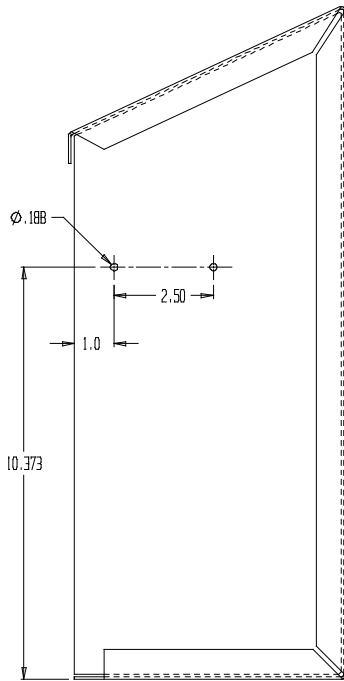

Fig. 2
Before doing any work remove power by unplugging machine. Remove the resistor that is cable tied at the top of the control panel, between the switch rows. Disconnect the wires from the Infeed Selector Switch (ISS), the top and bottom of the Infeed Jog Switch (IJS), and from the + and - sides of the Bridge Diode (BD) with a pliers. Drill two 3/16" (.188) diameter holes on the right side of the electrical box. (See Figure 2.) Attach the new voltage regulator to the side of the control box with the hardware provided. Attach the wires from the new voltage regulator to the switches and bridge diode as shown in Figure 1. Test system for direction and speed.
- Step 4: Locate and drill two 3/16" diameter (.188) holes on the right side of the electrical box. (See Figure 2.)